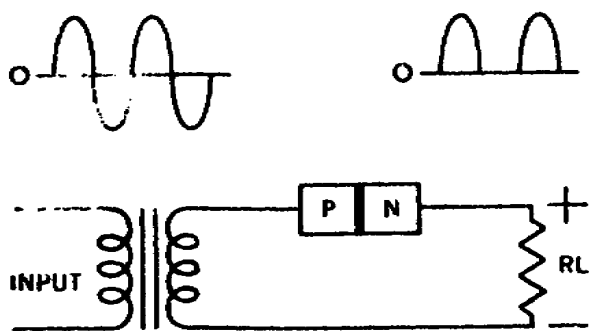

Figure 111. Half-wave rectification.
15. **Diode Action.** Combining P- and N-type germanium into a single crystal is the basis of both diode and transistor action. The P-N junction can be used as a rectifier because of its ability pass current in one direction and practically no current in the other. Applying an a.c. voltage to this junction results in a d.c. output similar to that produced by a vacuum tube diode. Figure 111 shows a semiconductor diode rectifying an alternating voltage. When this P-N junction is biased in the forward direction, current will flow across the load resistor, R_L . When the junction is biased in the reverse direction, no current will flow across the load resistor, R_L . Forward and reverse biasing is caused by the a.c. input.